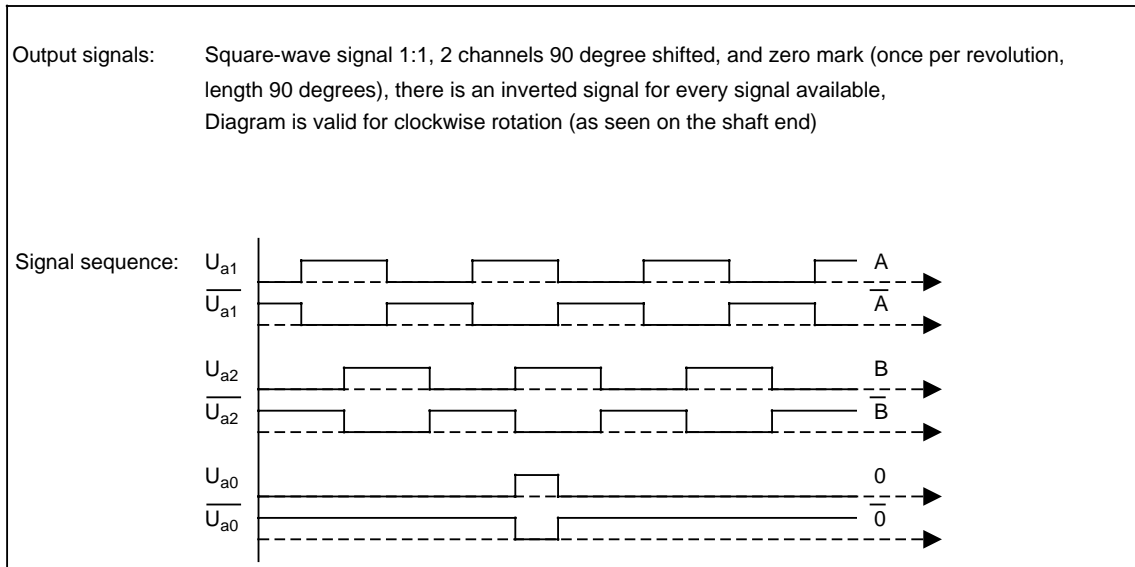

Figure 6.10 Necessary encoder signals.
One zero mark per revolution (pulse length 90 degree, see fig. 6.10)
- Encoder output signals (figure 6.10)